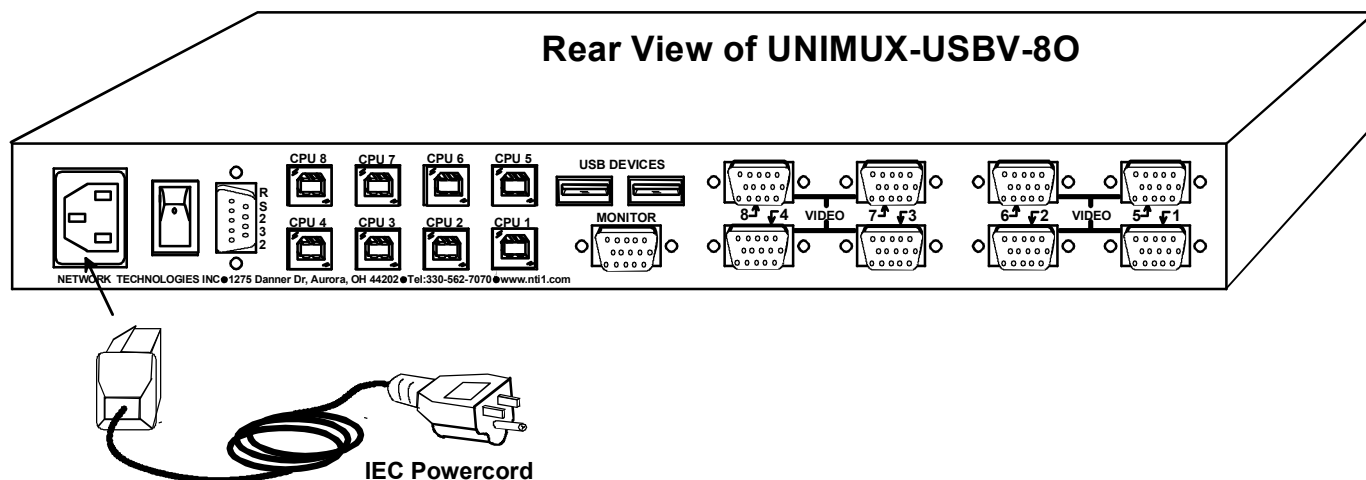

Figure 5- Connect the AC line cord
6. Connect the AC line cord to the UNIMUX. (See Fig. 5 below.)